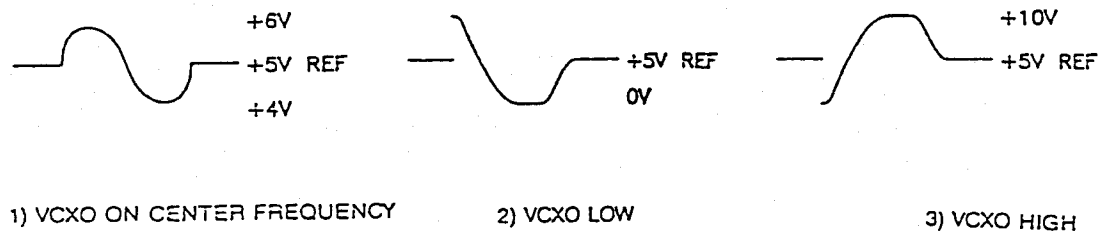

FIGURE 3-7. TP1 Phase and Amplitude Indications.
c. SYNCHRONOUS DEMODULATION. The amplified modulation signal received at U3, pin 3 is subsequently demodulated at a 127 Hz rate. See Figure 3-3, f_m . The resulting demodulated output (U3, pin 4) can be observed at TP1 on the flex board. See Figure 3-7. The TP1 output signal is the result of synchronous demodulation and contains both phase and amplitude information, indicating whether above, below or "on" the rubidium frequency. The further amplified signal received at U3, pin 2 is demodulated at a 254 Hz rate. See Figure 3-2, $2f_m$. The resulting output (U3, pin 15) is a positive 1/2 cycle of the 254 Hz, $2f_m$.